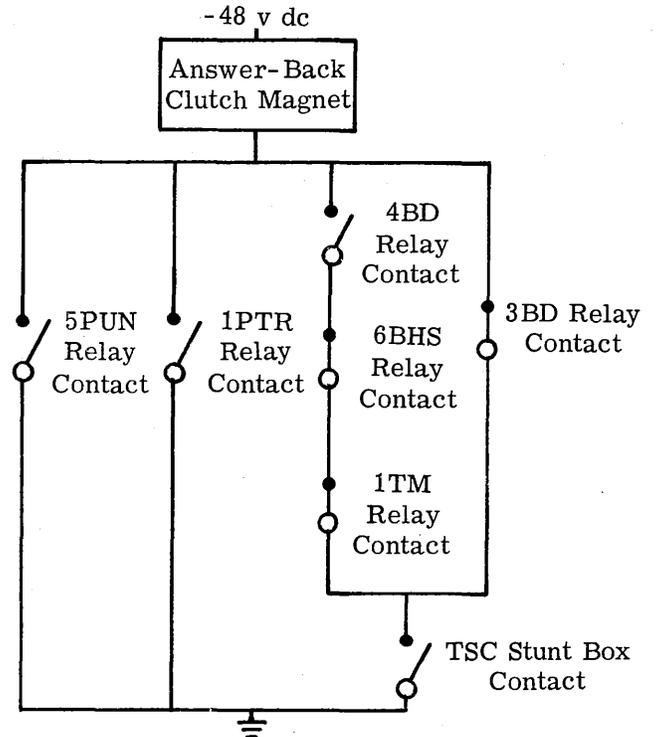

Figure 9 - Active Circuit Element for No-Traffic Response
3.38 If a sending station has no traffic to send, either tape is missing from the reader and/or the bat-handle switch is off. A bid cannot be entered if either condition exists. Upon receipt of the station TSC, the TSC stunt box contact closes momentarily to pulse the answer-back clutch magnet (Figure 9). The answer-back mechanism distributes the \ACK sequence on the send leg, indicating a no-traffic condition.